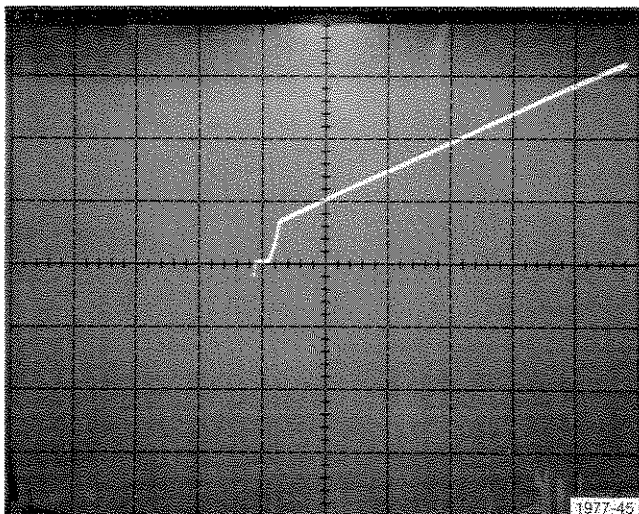

Fig. E-9. + supply current.
- a. Check that the crt display represents a supply current of ≤ 2 mA (≤ 4 vertical divisions from the graticule center, see Fig. E-9).